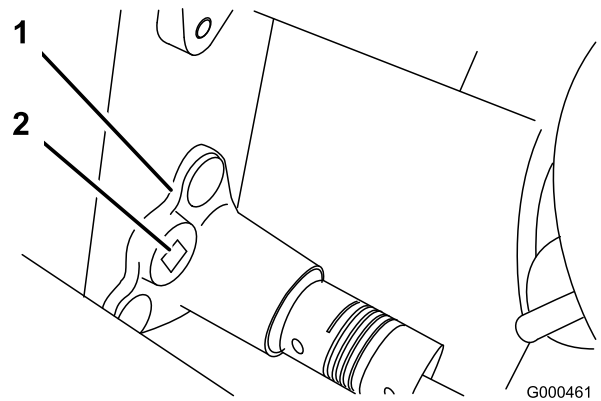

Figure 39
- B. Using a $3/8$ inch drive torque wrench, rotate the bearing housing with 35-40 in.-lb. of torque to set belt tension (Figure 39).